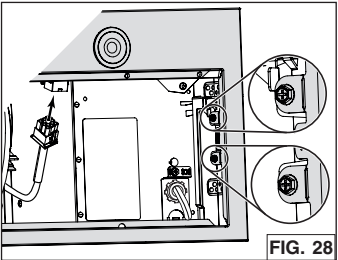

FIG. 28
6. Reinstall and secure the faceplate to the unit using its 4 retaining screws (two per side, circled in FIG. 28). Plug the blower cable to its connector on faceplate (FIG. 28).